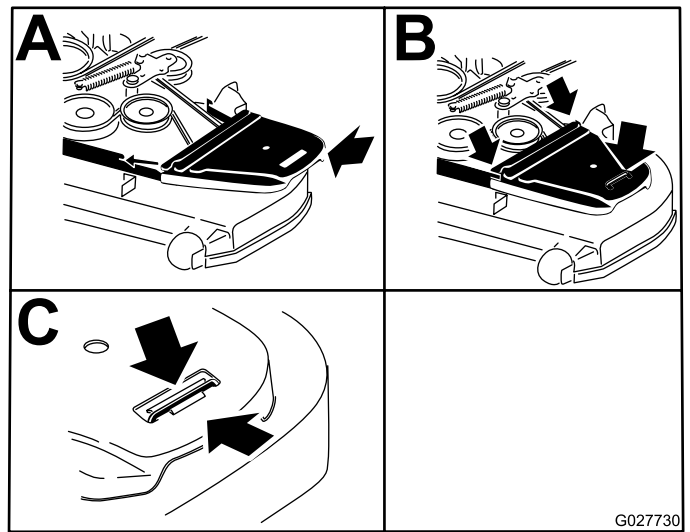

**Figure 76**
5. Use a ratchet in the square hole in the idler arm to remove tension on the idler spring (Figure 76).
7. Remove the belt guide on the spring-loaded idler arm shown in Figure 76.
9. Install the new belt around the mower pulleys and the clutch pulley under the engine (Figure 76).
10. Install the belt guide on the idler arm shown in Figure 76.
11. Using the ratchet in the square hole, install the idler spring (Figure 76).